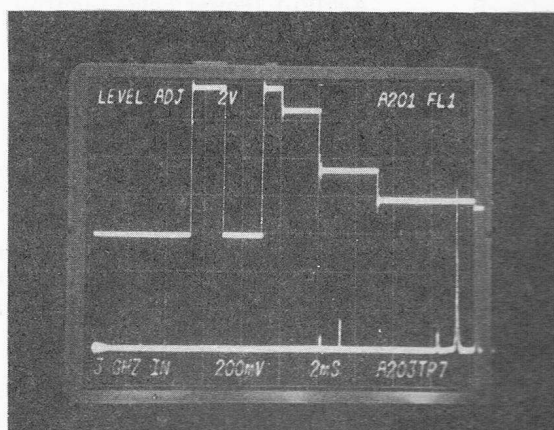

FIGURE 6-8
(2) Ground A203TP1.
(3) Apply a 1.5 GHz signal at +7 dBm and observe the Video Detector signal.
(4) Slowly tune the frequency upward. At some frequencies, a spurious output corresponding to approximately one half the input frequency will be visible.
(5) As the frequency is varied from 1.5 to 18 GHz, adjust the appropriate controls listed in Table 6-1 so no spurious signal has an amplitude in excess of 300 mV. Refer to Figure 6-8 for a typical display. (Vary oscilloscope time base setting as necessary to keep the the display on the screen.)